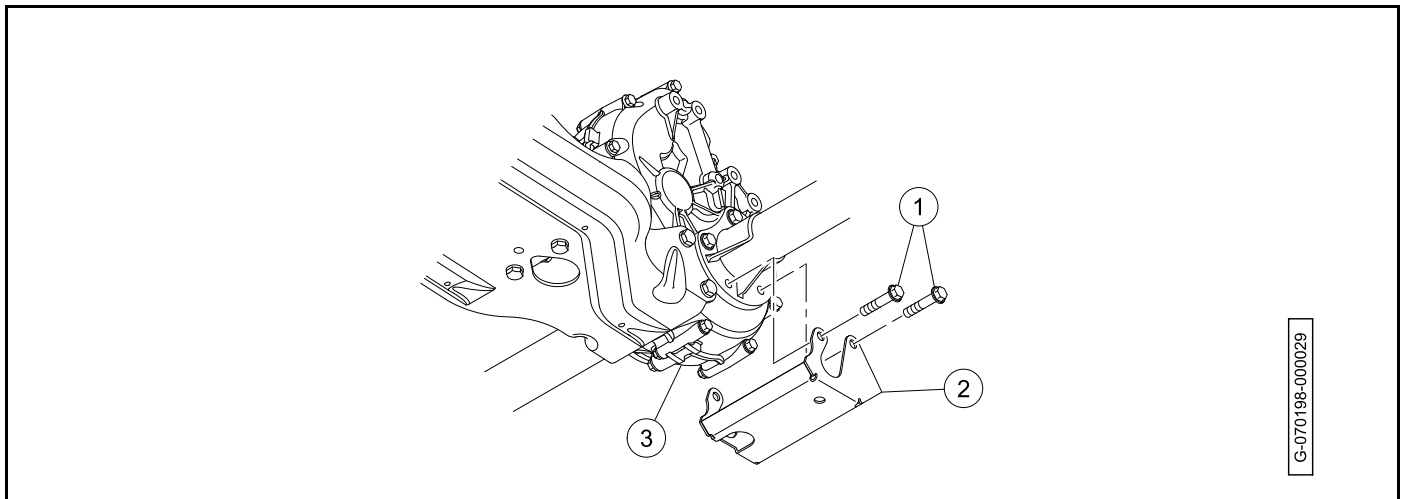

Figure 24-6 Differential Guard Installation
2. Secure the differential guard (2) to the transaxle (3) with the 4 bolts (1). Tighten the four bolts from 25 ft·lb to 31 ft·lb (34.3 N·m to 42.2 N·m) (Figure 24-6, Page 24-7).